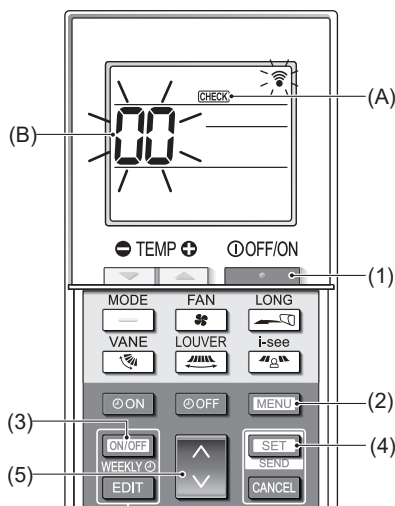

Fig. 7-6
■ Self-check (Fig. 7-6)
- Press the (1) to stop the air conditioner.
- If the weekly timer is enabled (**WEEKLY** is on), press the (3) to disable it (**WEEKLY** is off).
- Press the (2) for 5 seconds.
- CHECK** (A) comes on and the unit enters the self-check mode.
- Press the (5) to select the refrigerant address (M-NET address) (B) of the indoor unit for which you want to perform the self-check.
- Press the (4).
- Press the (1).
- CHECK** (A) and the refrigerant address (M-NET address) (B) go off and the self-check is completed.